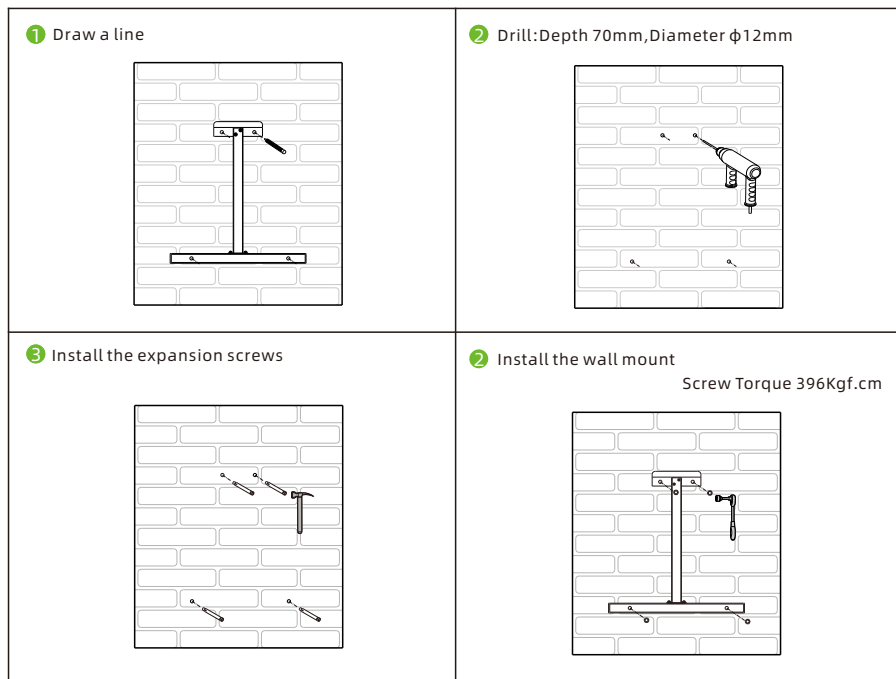

Fig 5.9
- STEP 1:** Use the wall mount plate as a template, drill holes into the wall and insert the expansion bolts as Fig 5.9 show;